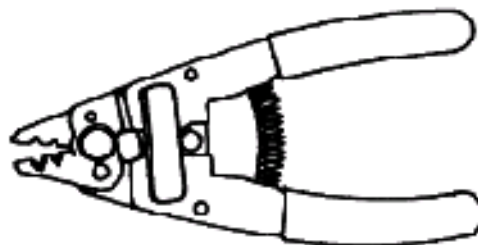

Figure 18. Lite-Strip Optic Fiber Stripper
23. **Lite-Strip Optical Fiber Stripper.** Lite-strip optical fiber stripper model precisely strips outer cable jacket insulations, tight buffer tube installations, and mechanically strippable coatings (Figure 18). Features of this model are as follows: